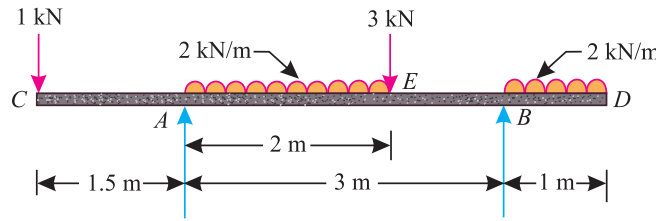

Fig. 12.12.
**Example 12.5.** A beam AB of span 3 m, overhanging on both sides is loaded as shown in Fig. 12.12.